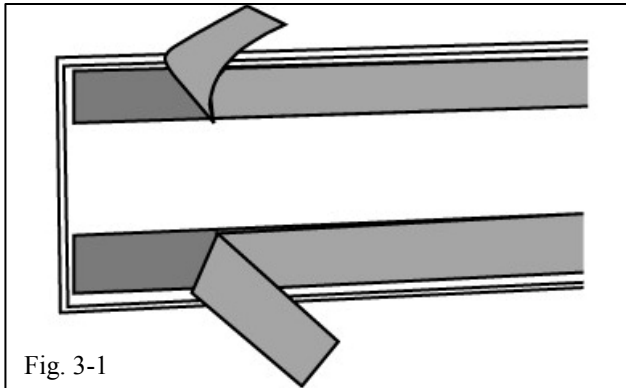

Fig. 3-1
- (a) Carefully hold the front door molding by its edges and fold the liner tabs on the horizontal 3M tape lengths upwards (top piece) and downwards (bottom piece) such that the tabs are accessible when the molding is in install position (Fig. 3-1).
! (h) Align the front edge of the rear molding with the vertical mark on the tape located 8.7mm (0.34 in) rearward of the front edge of the rear door (Fig. 3-1).